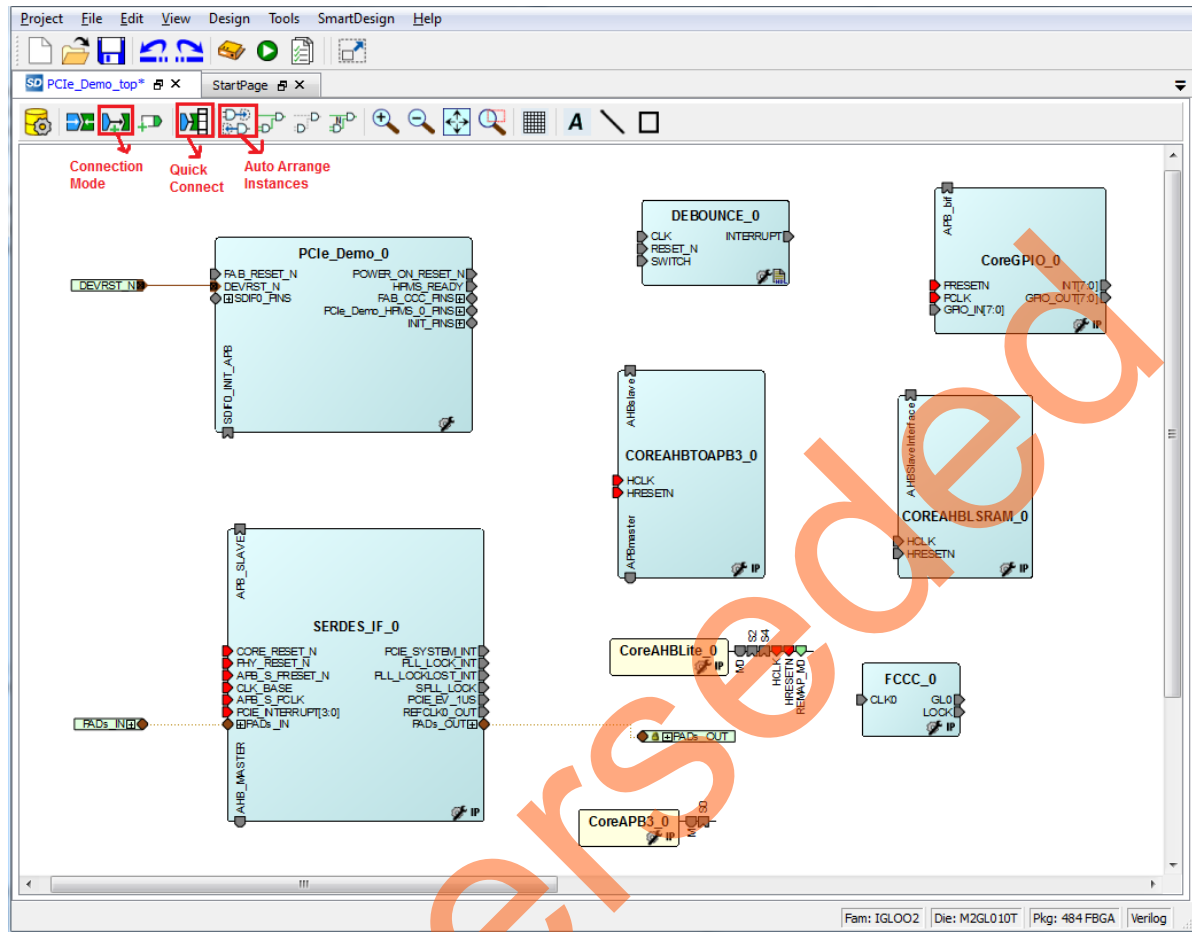

Figure 26 • PCIe_Demo_top in SmartDesign
- Figure 26 shows PCIe_Demo_top in SmartDesign after configuring all components.
- The first method is by using the **Connection Mode** option. To use this method, change the SmartDesign to connection mode by clicking **Connection Mode** on the SmartDesign window, as shown in Figure 26. The cursor changes from the normal arrow shape to the connection mode icon shape. To make a connection in this mode, click on the first pin and drag-drop to the second pin that you want to connect.
- The third method is by using the **Quick Connect** option. To use this method, change the SmartDesign to quick connect mode by clicking on **Quick Connect** mode on the SmartDesign window, as shown in Figure 26. Quick connect window will be opened.